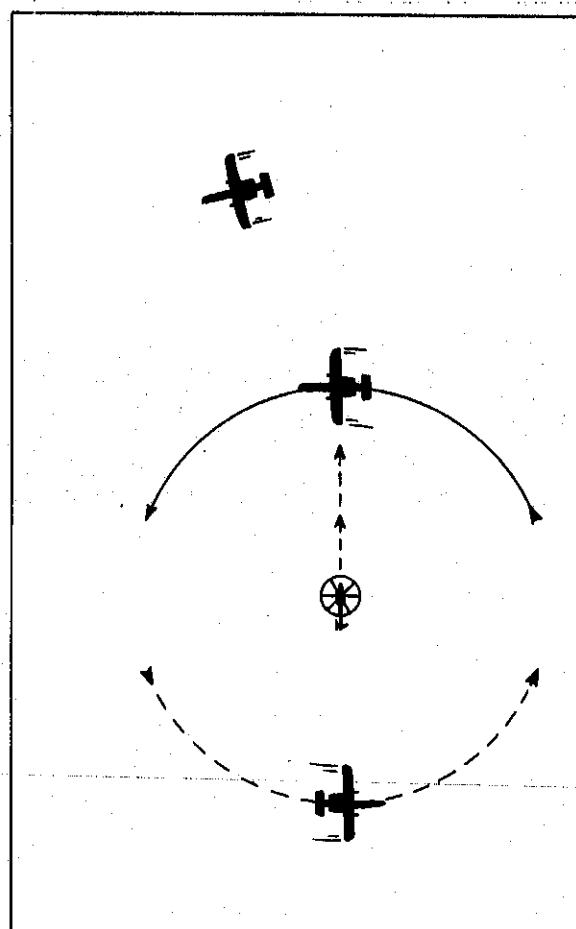

Figure 26-4. Hover Cover (Wheel).
(1) Combat experience has shown that the helicopter is most vulnerable while in the hover. Sandy's job is to protect the helicopter from any threat. The best hover cover pattern is the classic wheel (figure 26-4) with three A-10s. If the helicopter takes fire, the pilot calls out the direction relative to the nose of the aircraft. The wheel permits the Sandys to roll in on enemy fire within 10-15 seconds and deliver ordnance on either side of the helicopter.
(2) When the helicopter is 15-30 seconds from egress give the Sandys a call, but this may not be possible because of the tactical situation. After the helicopter departs the hover, Sandys reestablish the daisy chain to egress the area. Transition from "wheel" to "daisy chain" is difficult for the Sandys. Use of the prebriefed egress heading aids the Sandys during egress. Sandy lead will attempt to keep the helicopter low and clear of known threats on egress. Once clear of the area, check for battle damage, fuel status, survivor's condition, and revise recovery plans based on the most critical factor. Use "King" for DR headings and refueling points.
**26-8. E-3A SAR Mission Employment.** The E-3A has a look down radar with excellent range and IFF/SIF interrogating capability. Available radios include HF, UHF (in either clear or secure voice modes), VHF, and FM. The E-3A radio displays provide excellent wide area coverage, friendly or enemy air order of battle, radar and IFF sensor returns, and track symbology. The mission crew is made up of surveillance (ECM) operators, weapons directors (WD), and a mission crew commander. The E-3A can provide radar, communications, and command and control assistance in support of SAR operations. The E-3A may be first on scene and is well equipped to serve as SAR coordinator. When "King" arrives, the E-3A reverts to a radar and communications platform, working with the AMC and other SARTF forces.